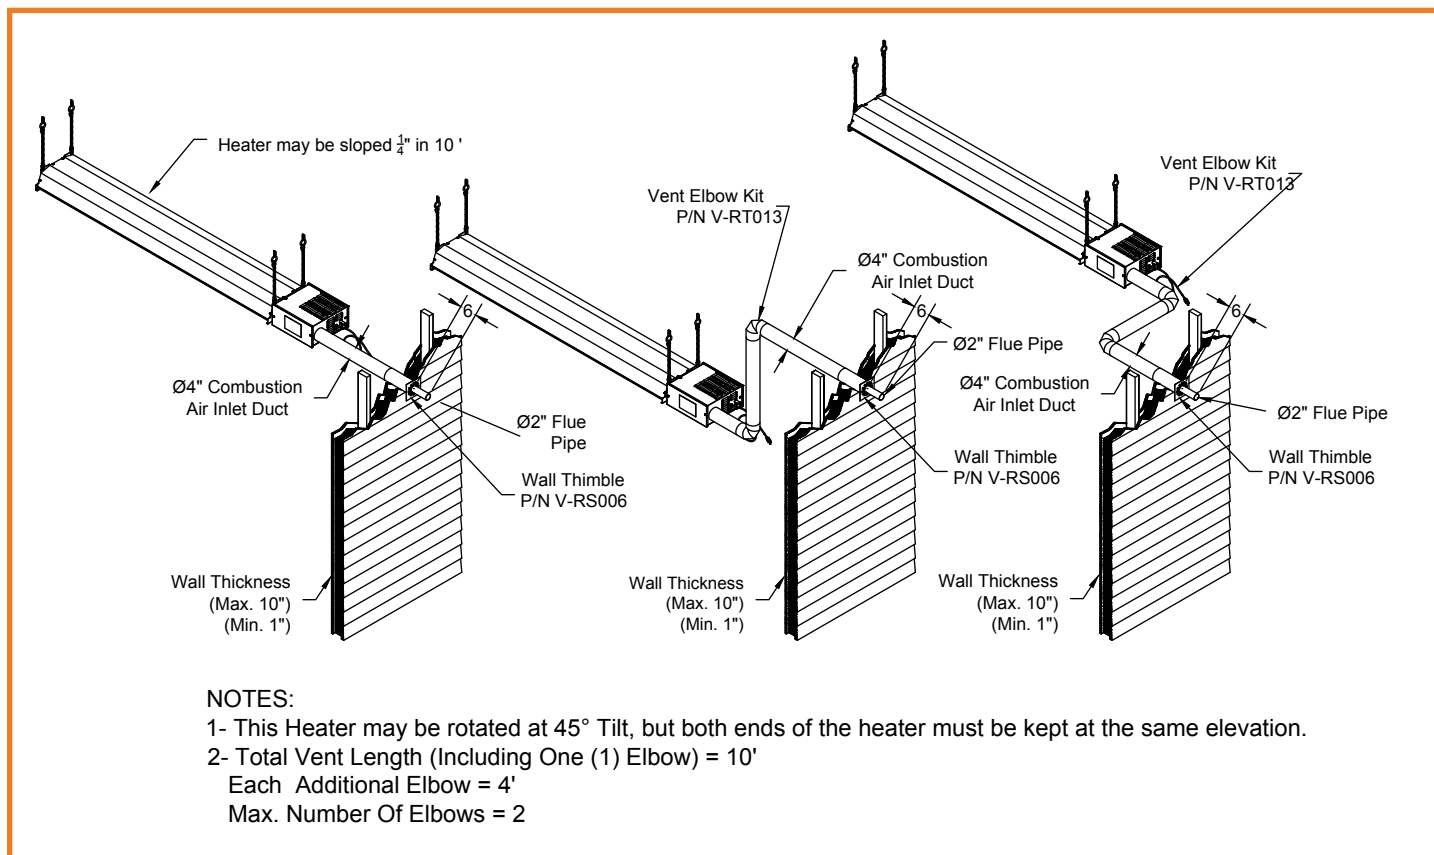
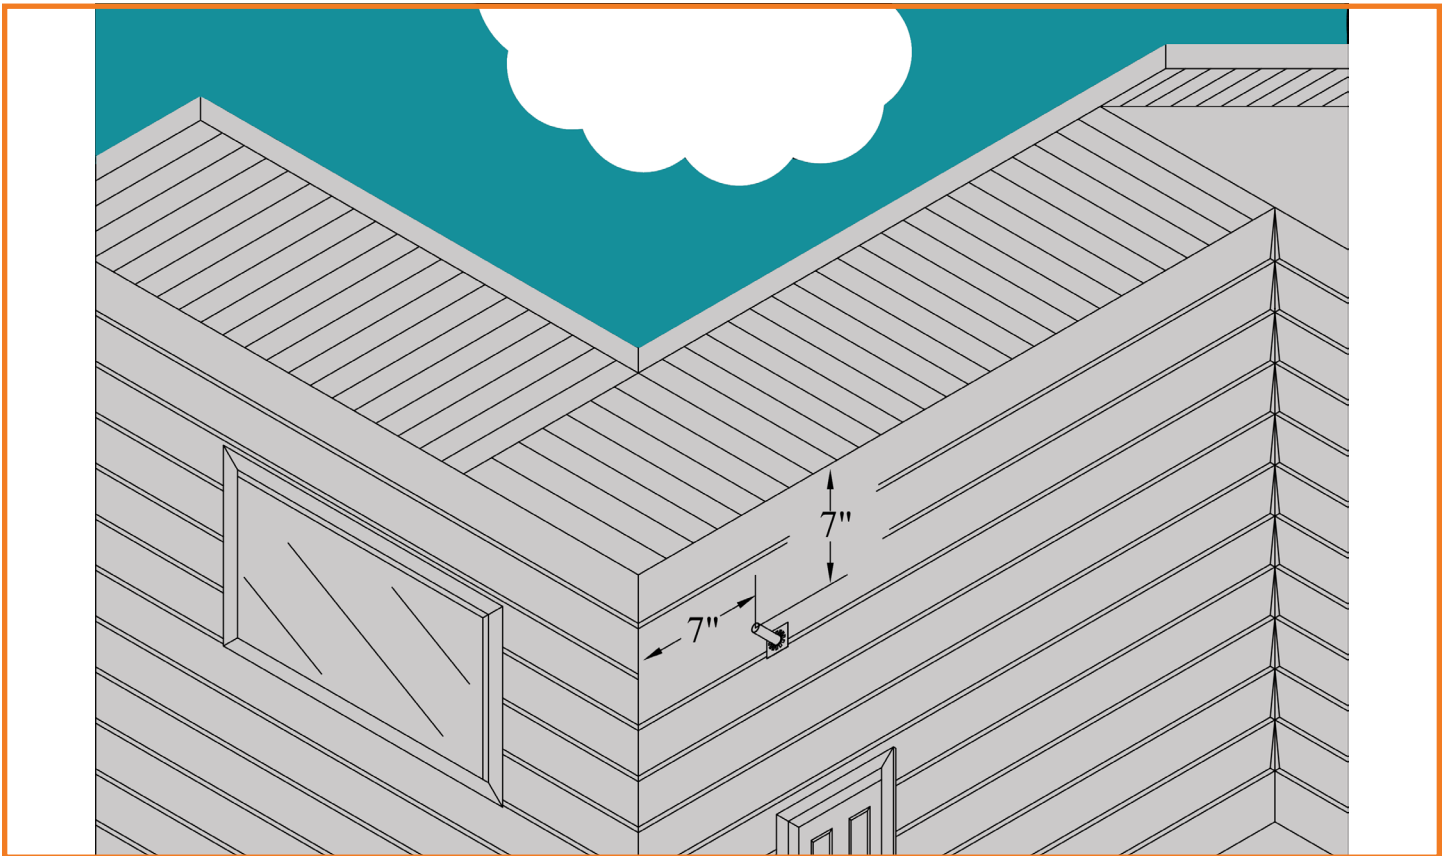
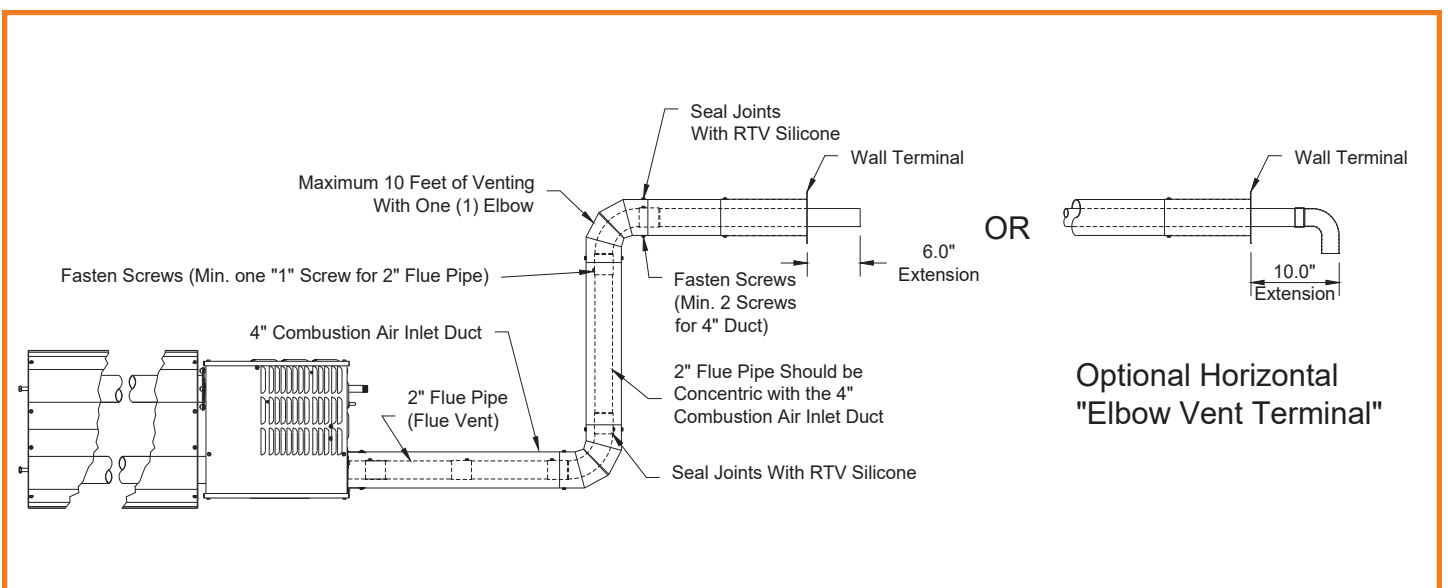
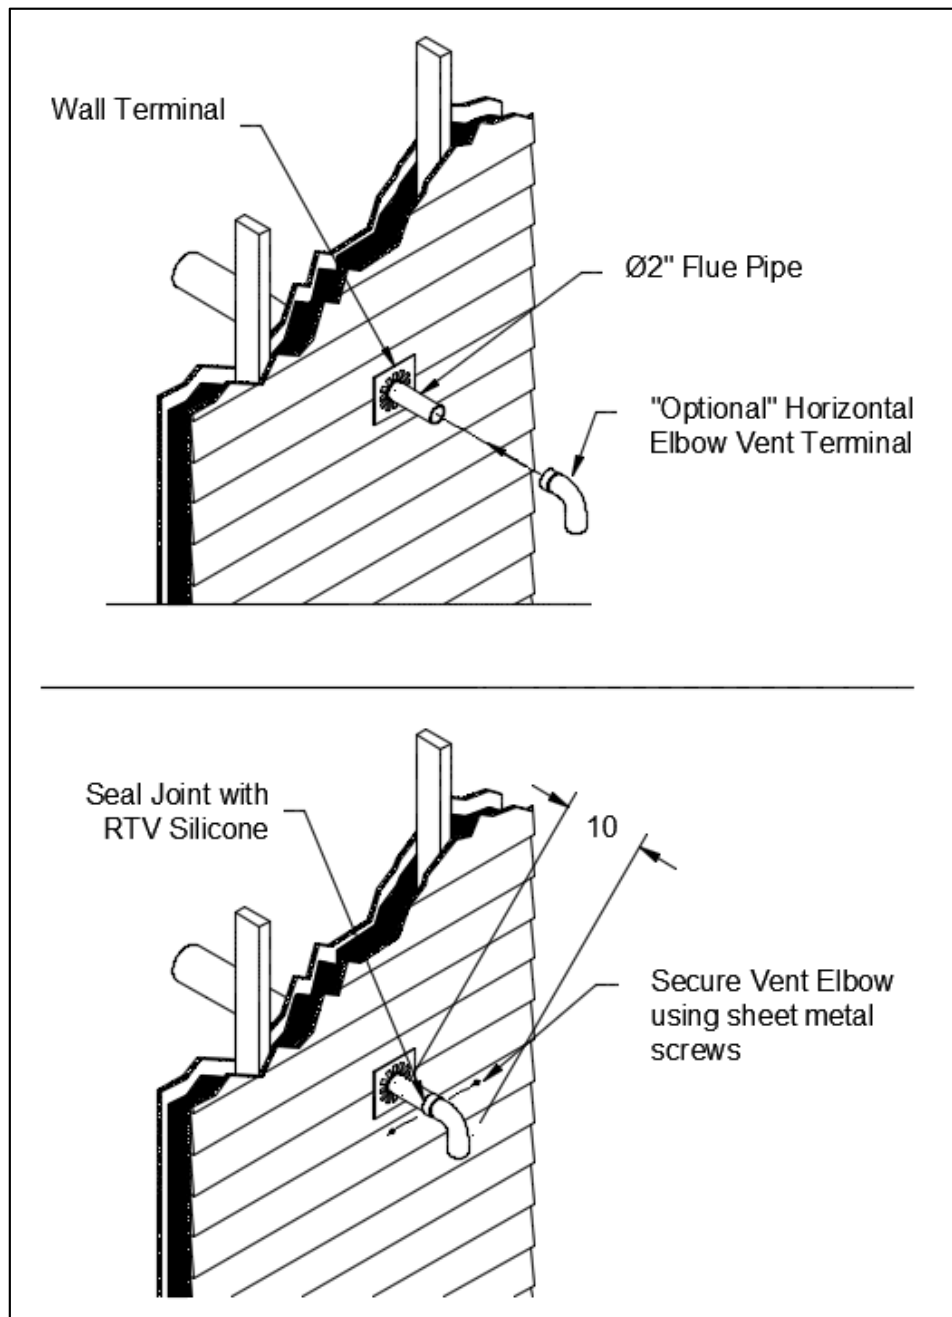

Figure 9: Various Venting Orientations
Figure 10: Minimum Clearance under an Eave
Figure 11: Venting & Combustion Air Ducting
Figure 12: Optional Horizontal elbow Vent Terminal / Installation
- This equipment is of balanced flue construction and must be horizontally vented (see Figure 9). Vertical venting is permitted, but not as a balanced flue assembly. (See roof venting - Figure 12)
- For horizontal venting where an elbow is utilized an elbow kit (Part No. V-RT013) must be used, refer to Figure 9 for more details.
- The 2" flue pipe should extend a minimum of 6" beyond the end of the 4" wall terminal (for horizontally vented heaters only see Figure 11). Where the vent is under an eave the 2" vent pipe must have a minimum clearance of 7" from the centerline of the vent to the bottom of the eave, refer to Figure 10. However, when the 2" pipe is less than 18" from the bottom of the eave, we recommend the 2" flue extend just beyond the eave to prevent the possibility of frost. (Adhere to any code requirements for clearances to opening in the building).
- An optional "Horizontal Elbow Vent Terminal" kit for horizontal venting is also available; refer to Figure 11 and Figure 12.
- The 2" flue vent is inside (concentric with) the 4" combustion air inlet duct. Each of the former must be seamless and all joints must be fastened with screws and sealed with GE RTV-106 high temperature sealant (or equivalent) refer to Figure 11. The exposed 4" combustion air intake pipe is zero clearance throughout its length.
The RS Models are approved to be used with an elbow as a Horizontal Vent Terminal. See Figure 12 for installation details.